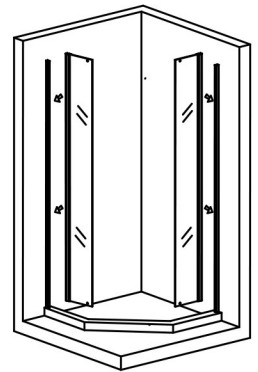

Fig.3
2. (Fig.3) Insert fixed glass panel into mounted wall channels.